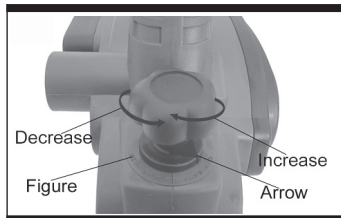

Fig 3
2. TO ADJUST PLANING DEPTH (see fig3)
The planing depth can be adjusted from 0mm to 2mm. To adjust the depth, turn the knob until the required depth setting is achieved. To adjust the depth of cut simply turn the cut depth adjustment knob. As shown in fig 3. The depth of cut is indicated by the figures molded into the body of the planer, align the arrow on the cut depth adjustment knob to the required depth setting. Turn clockwise to increase and anti-clockwise to decrease cutting depth. Always work from a rough cut to a finish cut. The approximate setting for rough planing is 0.8mm to 2.0mm. For finish planing use a setting of approximately 0mm to 0.8mm.